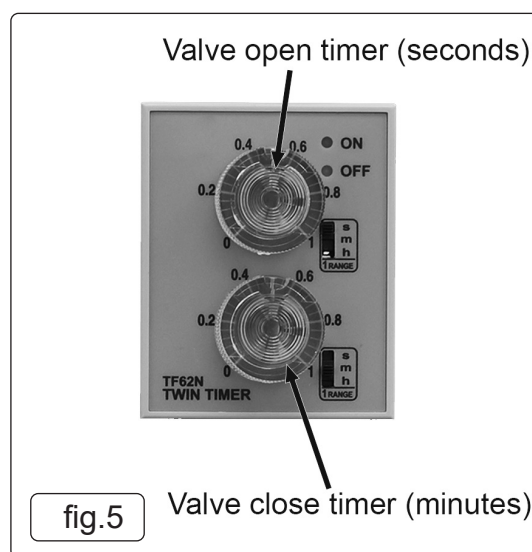

fig.5
- 5.4.2. Set timer control (fig.2.3, fig.5) to operate timing and frequency of operation. The top dial controls the valve open time and measured in seconds while the lower dial sets valve close time and is measured in minutes. When rinsing with water it is recommended to set open time to 0.1sec and close time to 0.1min and when air drying set open to 0.3sec and close to 0.3min. Users may adjust these settings accordingly.